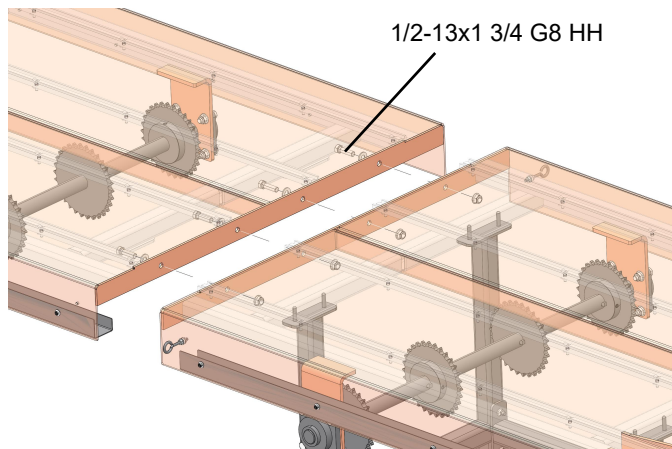

FIG. 3-10
1. Install the assembled middle section to the drive section as shown in FIG. 3-10.